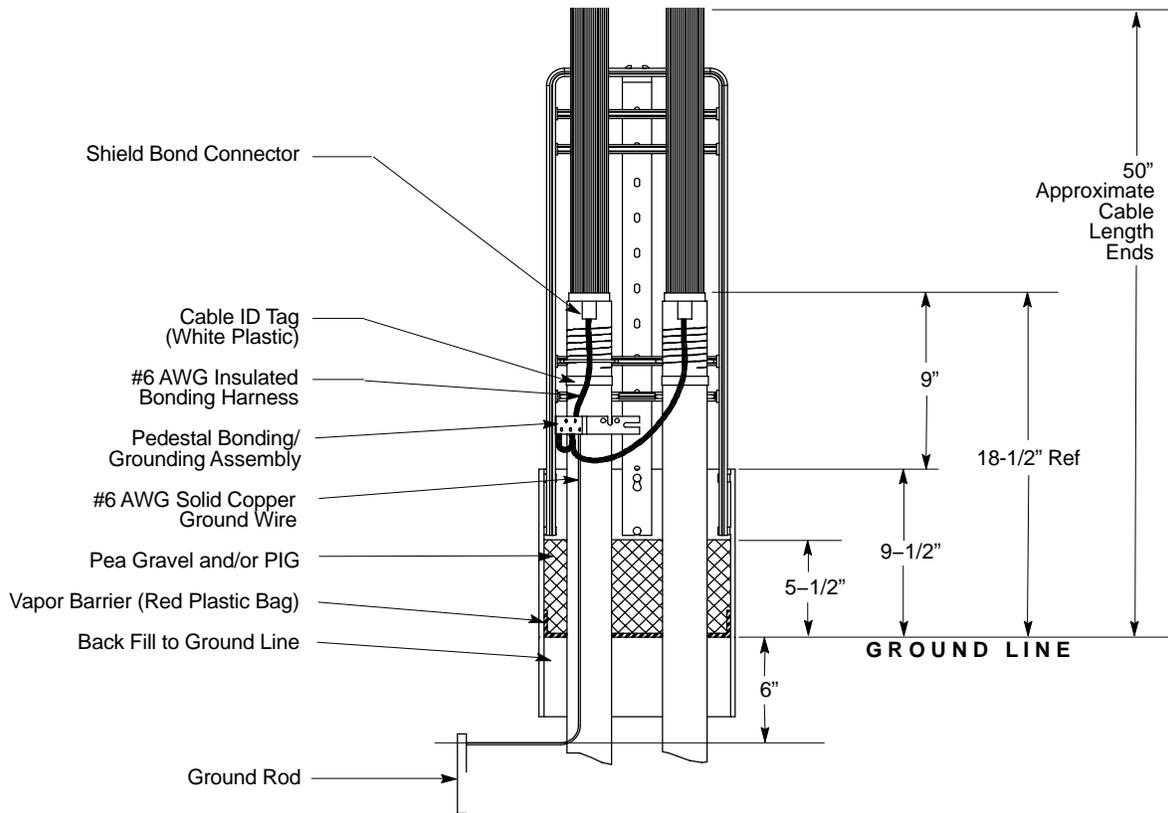

Figure 1. CPLS & BD Series Cable Pedestal
7.	Using Figure 1 as a guide, measure the top of the base and make the appropriate sheath opening in the cable.